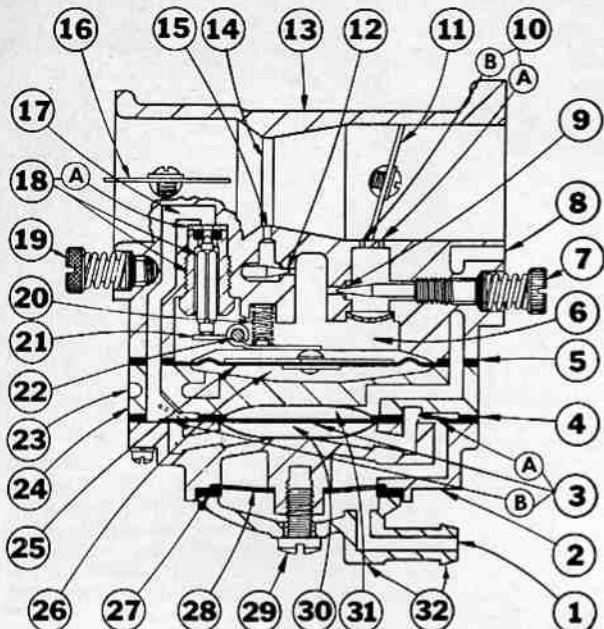

Fig CS8 — Cross-sectional schematic view of Tillotson series HL diaphragm carburetor. Some models of this type carburetor are equipped with an accelerator pump
A cross-sectional schematic view of a typical Tillotson series HL diaphragm type carburetor with integral fuel pump is shown in Fig. CS8. The top of the pump diaphragm is vented to the engine crankcase through the channel (8). As the diaphragm pulsates, fuel is drawn into the carburetor through the inlet (1), screen (28) and pump inlet valve (3A). The fuel is then pumped through the outlet valve (3B) into the supply channel (17). Engine suction through the main jet (15) and idle jets (10) is transmitted to the top of the carburetor diaphragm (25) and atmospheric pressure through the vent (23) pushes upward on the diaphragm (25) overcoming spring (20) pressure and unseating the inlet needle (18) allowing fuel to flow into the diaphragm chamber (6).